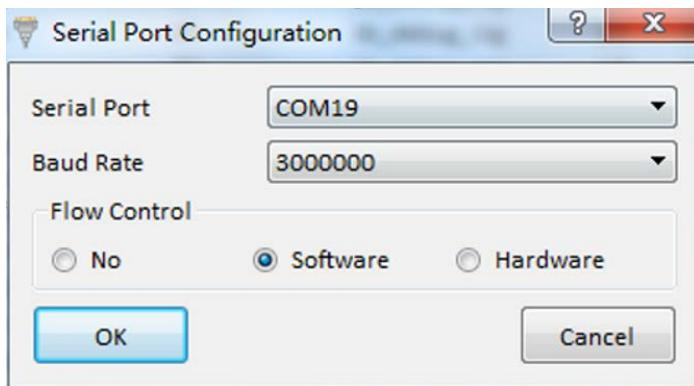

Figure 37. Serial Port Configuration Dialog
- 3) Set the Serial port & Baud Rate is shown in Figure 37.